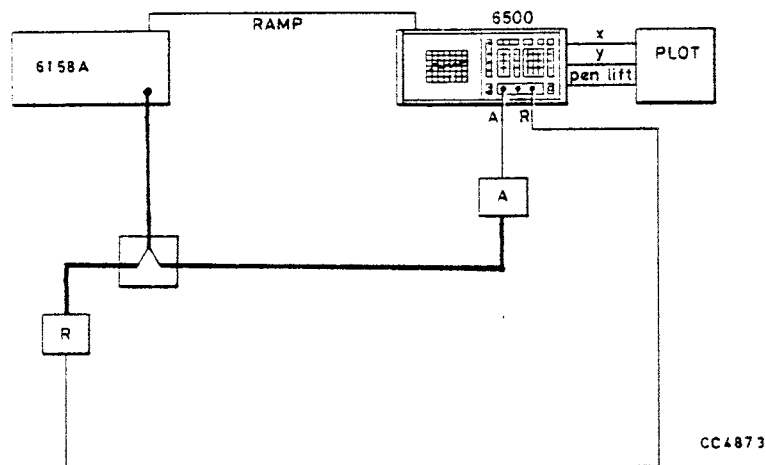

Fig. 6 Frequency response, interconnecting diagram
18. Connect the test equipment as shown in Fig. 6, switch 6158A r.f. source off and mode to SWEEP. Repeat the 6500 AUTO ZERO function, on completion switch 6158A r.f. source on and set the level for an output at the power splitter measurement port of -10 dBm, then carry out the following steps :-